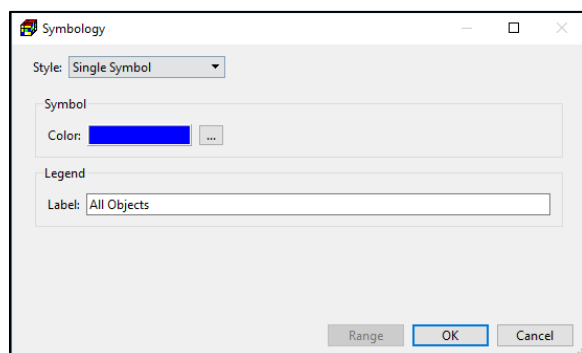

Figure 7. The Symbology dialog box - Single Symbol
1. Single Symbol (Figure 7): This is the default style and the easiest way to change the color of a shapefile.